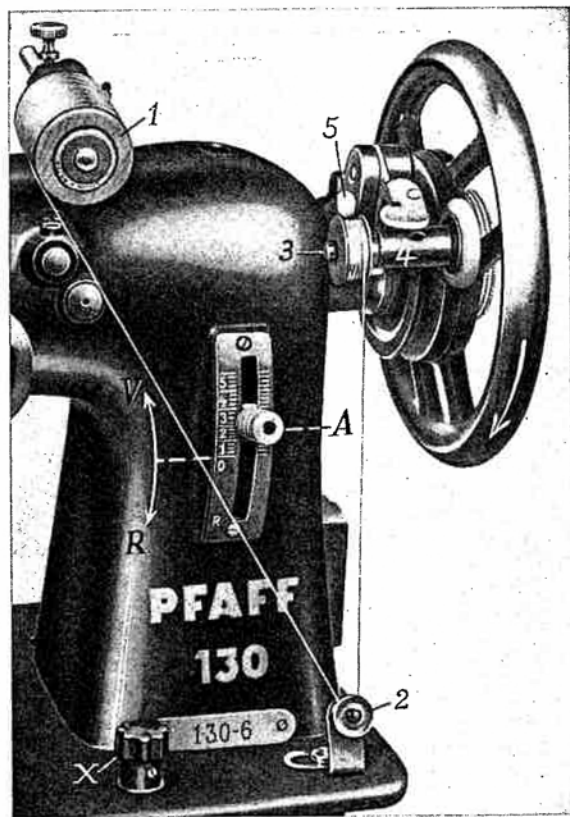

Fig. 6
4. To wind the bobbin (Fig. 6)
The length of the stitches is regulated by the stitch regulator screw. (Fig. 6). In the zero—(or neutral)—position, there is no feeding at all. The numbers above zero are for direct stitching; the space below for reverse stitching.
For darning and embroidering, the feed can be lowered by turning the knob (X), (Fig. 6), on the front right-hand side of the bed plate. Turn it right to lower the feed; turn it left to raise the feed.